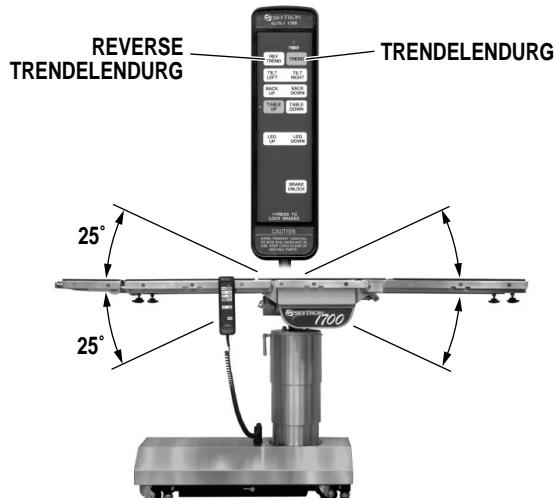

Figure 2-4. Trendelenburg Positioning
b. Trendelenburg. To place the surgical table in a Trendelenburg (head down) position, press the TREND button (figure 2-4). Trendelenburg positioning of up to 25° may be obtained. To place the table in a reverse Trendelenburg (head up) position, press the REV TREND button. Reverse Trendelenburg positioning of up to 25° may be obtained.